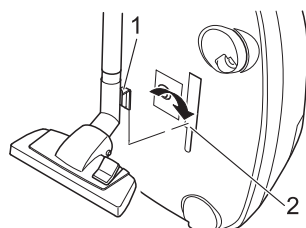

Fig.17
- To **store the vacuum** cleaner you can hook the park/storage hook (Fig. 17/1) into the storage (Fig. 17/2) bracket on the bottom of the appliance.